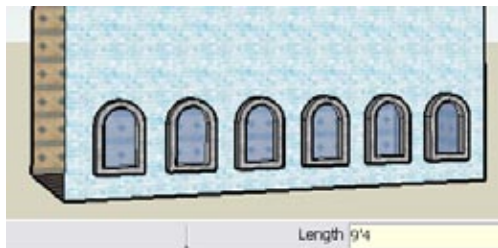

Figure 1-9
10. Keep trying out new numbers until your spacing looks right. As shown in Figure 1-9, I settled on spacing of 9' 4", which can be entered like this: 9'4. (The inch symbol is not needed because that is the default unit.)